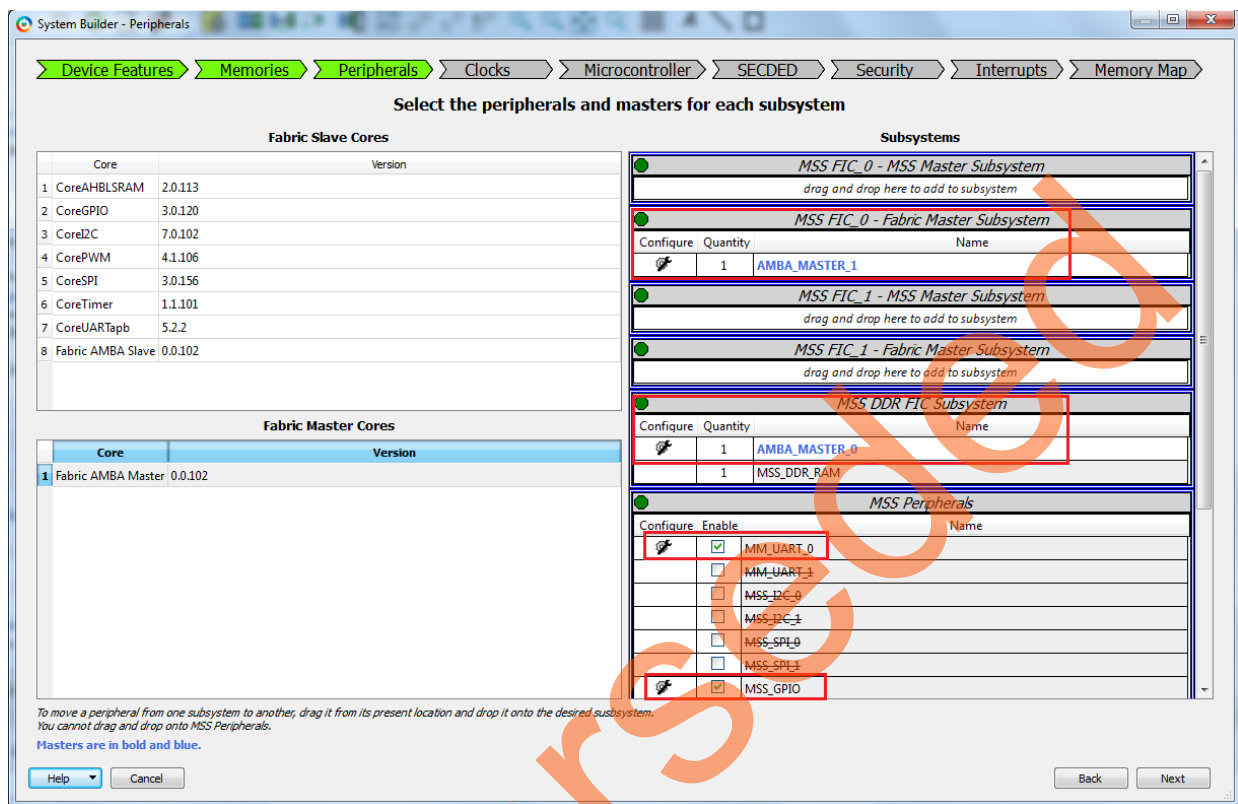

Figure 10 • Selecting MMUART_0 and MSS GPIO in Peripherals Tab
4. Drag the **Fabric AMBA Master** in the peripherals tab and drop on to the MSS DDR FIC Subsystem. The AMBA_MASTER_0 is added to the subsystem. Configure the Interface Type as AXI. Figure 10 shows the Peripherals tab.